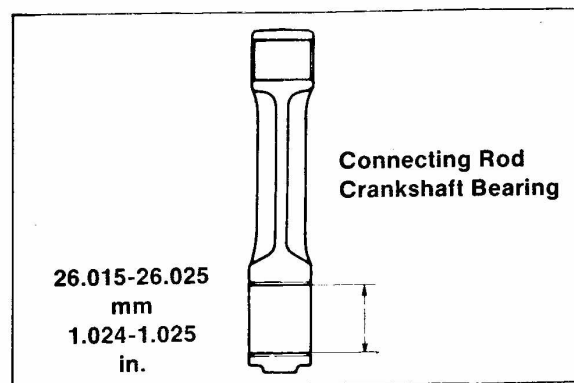

Figure 4-35
1. Measure the inside diameter of the connecting rod crankshaft bearing. The diameter should be 26.015 — 26.025 mm (1.024 — 1.025 in.) See Fig. 4-35.